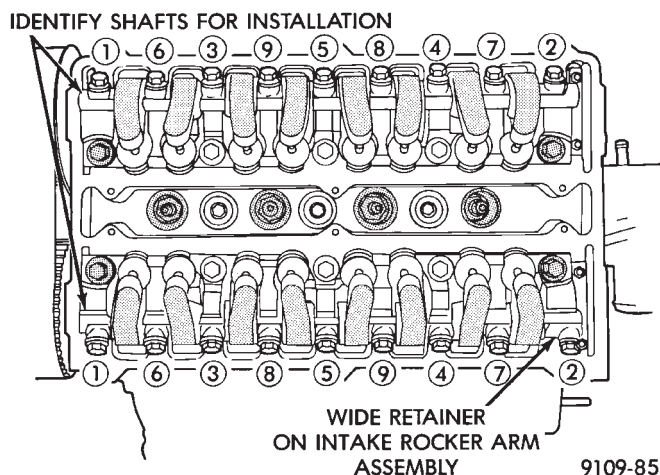

Fig. 1 Rocker Arm Shaft Removal Sequence
(1) Mark rocker arms shafts for reinstallation in the same position (Fig. 1).
(2) Remove rocker arm assembly attaching bolts in sequence (Fig. 1).